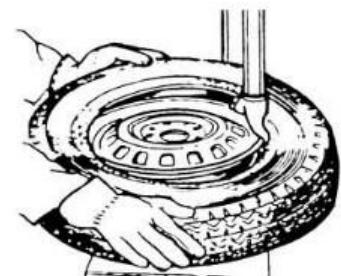

Fig. 7
6. Repeat the above operation for mounting the tyre up bead (figure 7).